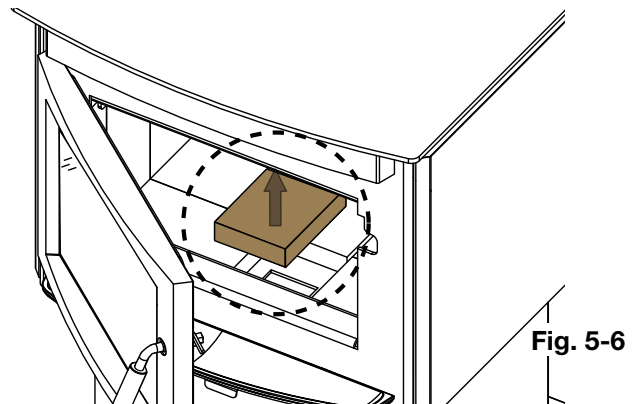

Fig. 5-6
5. Remove the small light weight brick that covers the ash opening and set aside for future use (**Fig. 5-6**).